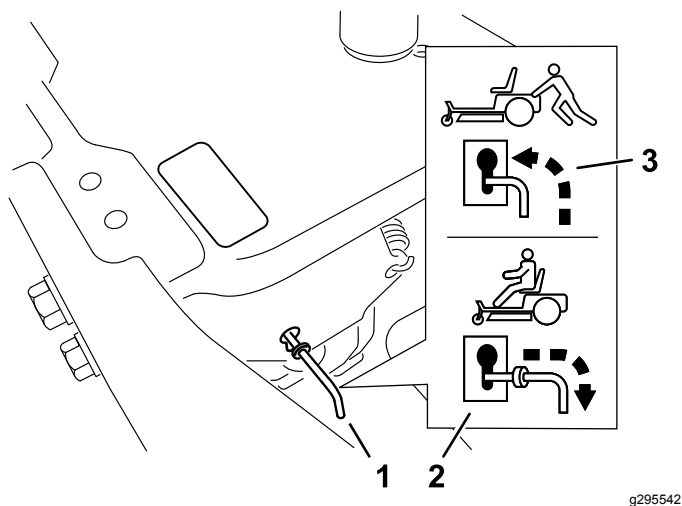

Figure 24
4. Move the bypass levers forward through the key hole and down to lock them in place (Figure 24).
Move the bypass levers rearward through the keyhole and down to lock them in place as shown in Figure 24.